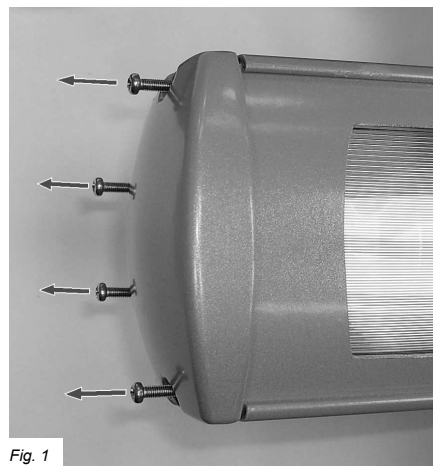

Fig. 1
3. Unscrew the four screws (see Fig. 1) from the end cap and remove from the heater body. Repeat at opposite end if replacing both light bulbs.